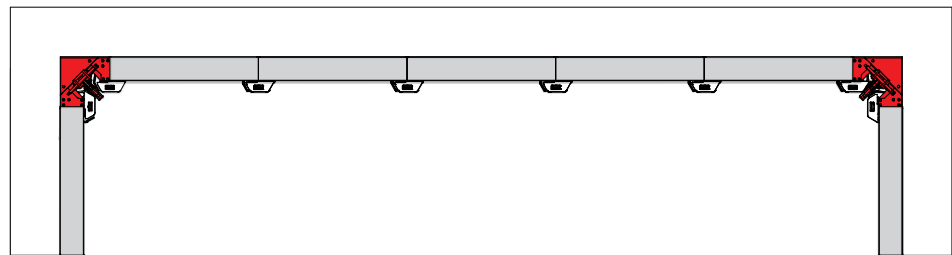

Fig. 35.1
1. Remove the AS assembly locks connecting the stripping corners with the panels (Fig. 35.1).